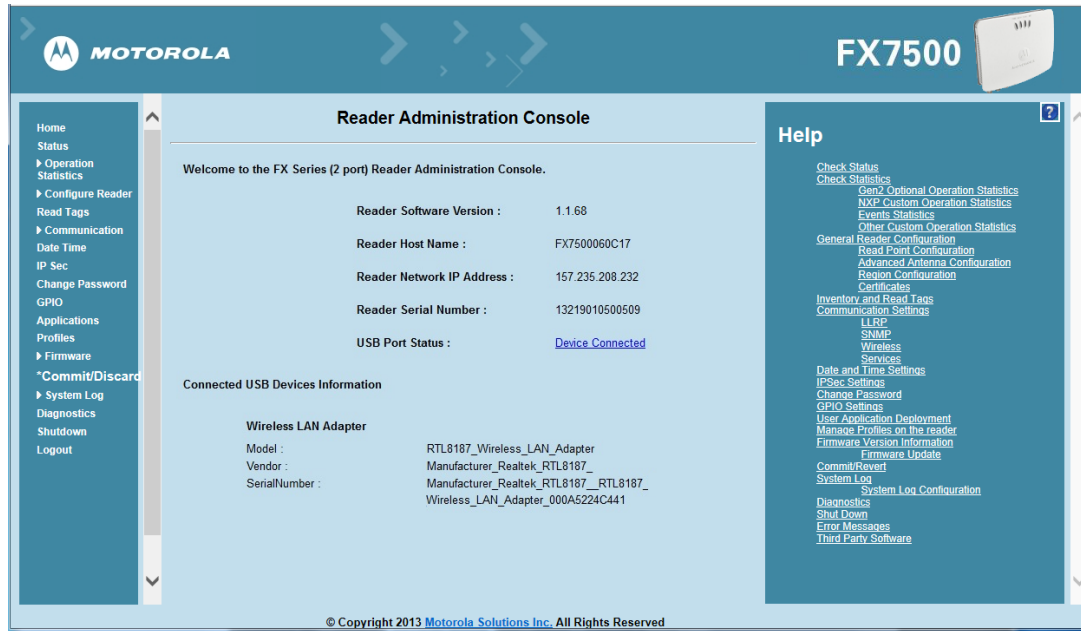

Figure D-2 Wi-Fi Dongle Connected
- To confirm that the Wi-Fi dongle is detected properly, log in to the reader Administrator Console. On the Home page ensure the **USB Port Status** displays **Device Connected**. Hover the mouse pointer over this link to display the WiFi dongle information shown in *Figure D-2*.